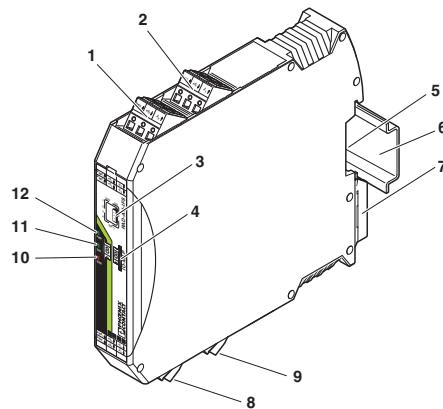

Figure 3-1 RAD-AI4-IFS structure
A supply voltage of 12 V DC, minimum, is available at the PWR1 connection terminal block for passive sensors (see Figure 3-1, item 1).